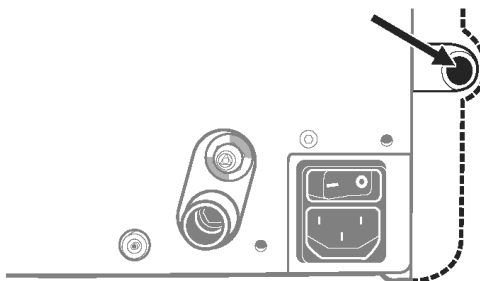

Fig. 2-13 Connection for tube from FRC gas cylinder
- Connect the quick connect coupler to the FRC gas inlet at the *EasyOne Pro™ LAB* (Fig. 2-13).
- Connect the tube to the FRC gas inlet at the *EasyOne Pro™ LAB* (Fig. 2-13): push the tube onto the stud, exerting sufficient force to overcome the initial resistance; then advance the tube until the stop.